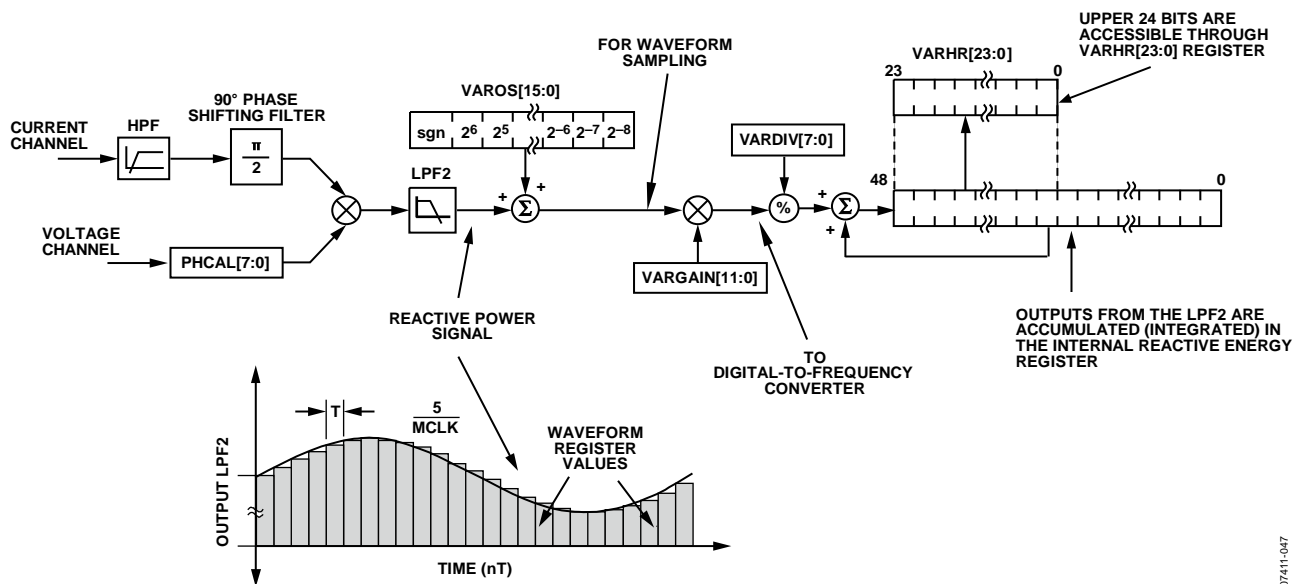

Figure 72. Reactive Energy Calculation
The instantaneous reactive power signal, $q(t)$, is generated by multiplying the voltage and current channels. In this case, the phase of the current channel is shifted by 90°. The dc component of the instantaneous reactive power signal is then extracted by a low-pass filter to obtain the reactive power information (see Figure 72).
Figure 72 shows the signal processing chain for the ADE5169/ADE5569 reactive power calculation. As explained in the Reactive Power Calculation section, the reactive power is calculated by applying a low-pass filter to the instantaneous reactive power signal. Note that, when reading the waveform samples from the output of LPF2, the gain of the reactive energy can be adjusted by using the multiplier and by writing a twos complement, 12-bit word to the var gain register (VARGAIN, Address 0x1E[11:0]). Equation 23 shows how the gain adjustment is related to the contents of the var gain register.
The ADE5169/ADE5569 also incorporate a reactive power offset register (VAROS, Address 0x21). This is a signed, twos complement, 16-bit register that can be used to remove offsets in the reactive power calculation (see Figure 72). An offset can exist in the reactive power calculation due to crosstalk between channels on the PCB or in the IC itself. The offset calibration allows the contents of the reactive power register to be maintained at 0 when no power is being consumed.
The discrete time sample period (T) for the accumulation register in the ADE5169/ADE5569 is 1.22 μs (5/MCLK). As well as calculating the energy, this integration removes any sinusoidal components that may be in the active power signal. Figure 72 shows this discrete time integration or accumulation. The reactive power signal in the waveform register is continuously added to the internal reactive energy register.
As shown in Figure 72, the reactive power signal is accumulated in an internal 49-bit, signed register. The reactive power signal can be read from the waveform register by setting the WAVMODE register (Address 0x0D) and setting the WFSM bit (Bit 5) in the Interrupt Enable 3 SFR (MIRQENH, Address 0xDB). Like the current and voltage channel waveform sampling modes, the waveform data is available at sample rates of 25.6 kSPS, 12.8 kSPS, 6.4 kSPS, and 3.2 kSPS.